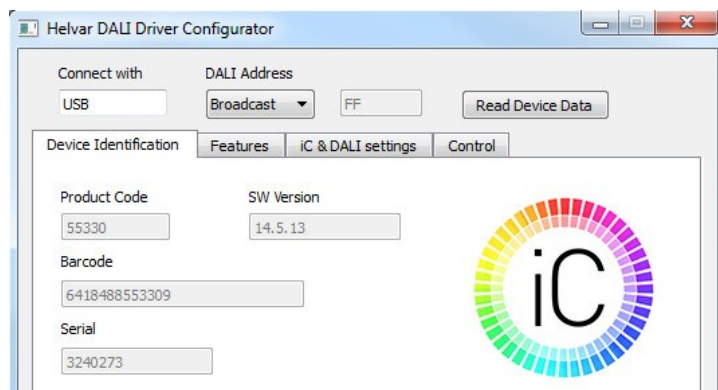

Figure 1. Helvar DALI driver Configurator tool window and Device Identification tab when iC driver connected.
- Main window is common for all sub tabs showing selected COM port, DALI address and Read Device Data button (Figure 1). Note every field should be filled before upload changes easiest to read device data to get default values from the LED driver. If value is missing or it is wrong it is indicated in status bar “something went wrong”.